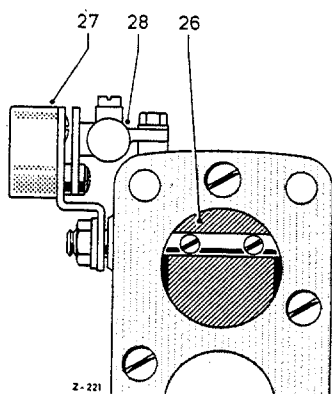

Fig. M 31 S/02
Both stages of the carburetor are combined in one housing (Fig. M 31 S/01). Throttle valve (23) of Stage 1 is located as usual in the lower part of the carburetor, set at an angle of 8° . Stage 2, however, has two throttle valves, set at an angle of 17° , the one (25) in the center section of the carburetor and the other (26) in the lower section. Throttle valves (23) and (25) of Stages 1 and 2 are coupled together by a linkage. The second throttle valve (26) of Stage 2 is not coupled to the other two. It is operated automatically by the pressure flow. The off-set shaft of the throttle valve is fitted with a lever, bearing a weight (27) (Fig. M 31 S/02).